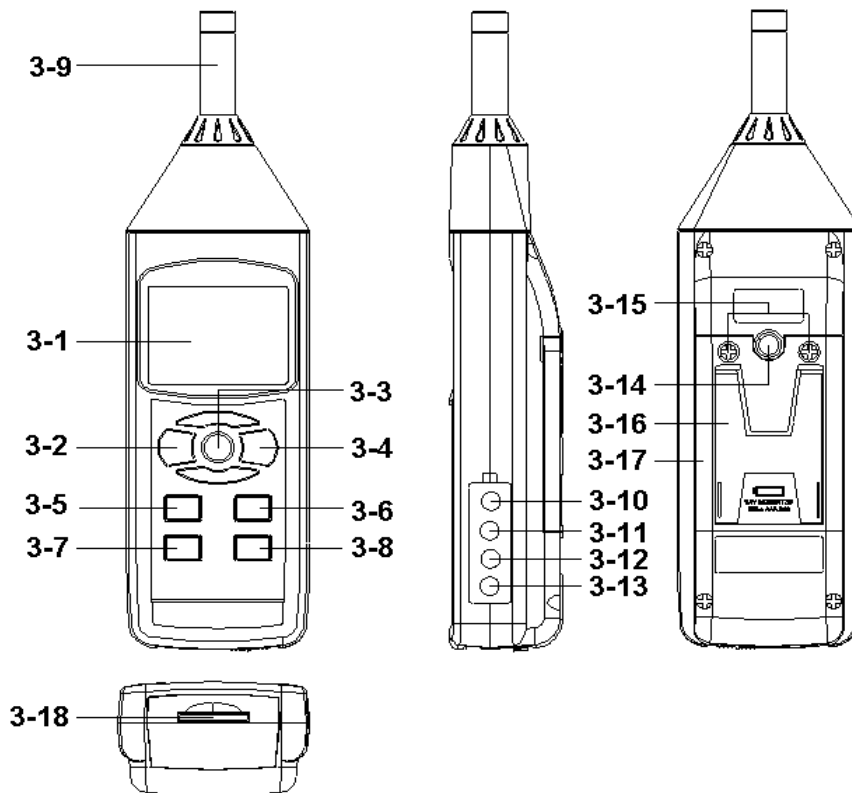

Fig. 1
- 1) Power on by pressing the " Power On/Off Button " (3-2, Fig. 1) , the meter's default function is " Auto range ", " A frequency weighting " & " Fast time weighting ". The LCD display will show the unit " A. Fast Auto ".
- 2) Select " A " or " C " frequency weighting by pressing the " A/C Button " (3-6, Fig. 1) .
- 3) Determine proper measuring range by pressing the " Range Button " (3-5, Fig. 1).
Under the auto range, press the " Range Button " (3-5, Fig. 1) once step by step will enter to the manual range (range 1, range 2, range 3) and auto range in sequence. There are still 3 manual ranges for your choice :
4) According to various measuring sound source, select the Time Weighting (Fast or Slow) by pressing the " Time Weighting Button " (3-7, Fig. 1).
During the measurement, press the " Hold Button " (3-3, Fig. 1) once will hold the measured value & the LCD will display a " HOLD " symbol.
1) The data record function records the maximum and minimum readings. Press the " REC Button " (3-4, Fig. 1) once to start the Data Record function and there will be a " REC " symbol on the display.
- a) Press the " REC Button " (3-4, Fig. 1) once, the " REC MAX " symbol along with the maximum value will appear on the display.
If intend to delete the maximum value, just press the " Hold Button " (3-3, Fig. 1) once, the display will show the " REC " symbol only & execute the memory function continuously.
- b) Press the " REC Button " (3-4, Fig. 1) again, the " REC MIN " symbol along with the minimum value will appear on the display.
If intend to delete the minimum value, just press the " Hold Button " (3-3, Fig. 1) once, the display will show the " REC " symbol only & execute the memory function continuously.
After power ON, the " LCD Backlight " will light automatically. During the measurement, press the " Backlight Button " (3-2, Fig. 1) once will turn OFF the " LCD Backlight " .
Prepare a " SD memory card " (1 GB to 16 GB, optional), insert the SD card into the " SD card socket " (3-18, Fig. 1). The front panel of the SD card should face against the the down case.
Press the " REC Button (3-4, Fig. 1) once , the LCD will show the text " REC ", then press the " Logger Button " (3-8, Fig. 1), the " REC " will flashing , at the same time the measuring data along the time information will be saved into the memory circuit.
During execute the Datalogger function , if press the " Logger Button " (3-8, Fig. 1) once will pause the Datalogger function (stop to save the measuring data into the memory circuit temporally). In the same time the text of " REC " will stop flashing.
If press the " Logger Button " (3-8, Fig. 1) once again will execute the Datalogger again, the text of " REC " will flashing .
During pause the Datalogger, press the " REC Button " (3-4, Fig. 1) continuously at least two seconds, the " REC " indicator will be disappeared and finish the Datalogger.
Press the " REC Button (3-4, Fig. 1) once , the LCD will show the text " REC ", then press the " Logger Button " (3-8, Fig. 1) once, the " REC " will flashing once, at the same time the measuring data along the time information and the Position no. will be saved into the memory circuit.
** During execute the Manual Datalogger, press the " SET Button " (3-7, Fig. 1) once, then use the " ▲ Button " (3-5, Fig. 1) or " ▼ Button " (3-6, Fig. 1) to set the measuring position (1 to 99, for example room 1 to room 99) to identify the measurement location. After finish the adjustment location no., press the " Enter Button " to entry.*
Press the " REC Button " (3-4, Fig. 1) continuously at least two seconds, the " REC " indication will be disappeared and finish the Datalogger.
During the measurement if press " Time check Button " (3-5, Fig. 1) > 2 seconds, the lower LCD display will present the time information of Year/Month, Date/Hour, Minute/Second.
During the measurement , If press " Sampling Check Button " (3-6, Fig. 1) > 2 seconds, the lower LCD display will present the Sampling time information in second unit.